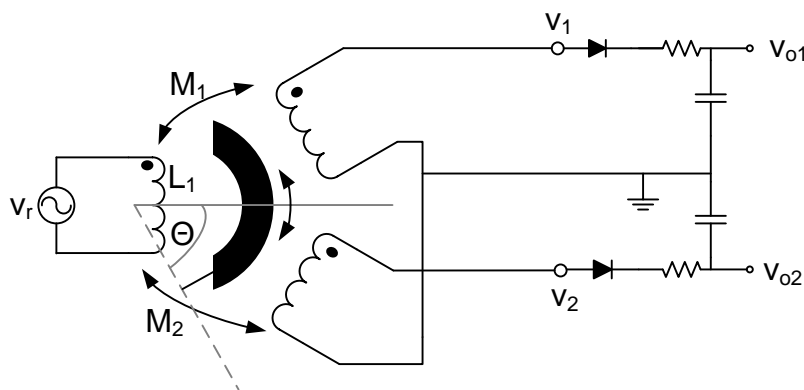

Figure 7: Double-sided rectifier with low-pass filter.
- (5p) (f) A phase sensitive detector can be used to recover the magnitude and direction of the rotation of the sensor core. In stead of a phase sensitive detector, it is also possible to connect the output signal of the RVDT to a double-sided rectifier with a low-pass filter as is shown in Figure 7. Is it possible to reconstruct from the output signal ( $v_{o2} - v_{o1}$ ) the direction (positive or negative angle)? (Explain your answer.)